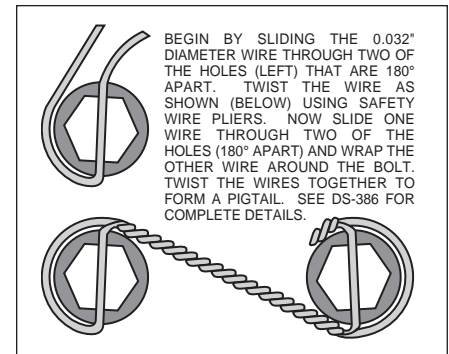
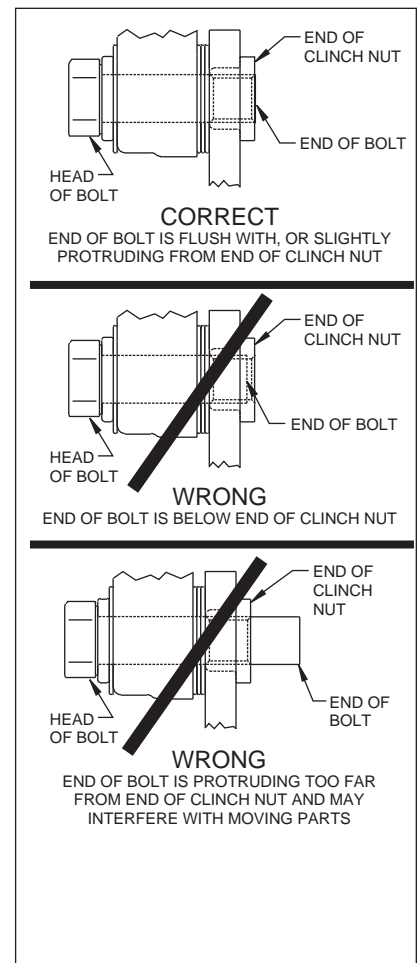

Figure 4. Safety Wire Diagram
Figure 5. Clinch Nut Engagement Diagram
•The rotor (3) has two sides. A flat side and an inset side. Bolt hat (2) to flat side of rotor (3) using bolts (5). Using an alternating sequence, apply red *Loctite*® 271 to the threads and torque bolts to 25 ft-lb. For an added measure of security, the bolts may be safety wired using standard 0.032 inch diameter stainless steel safety wire as shown in Figure 4. Please refer to Wilwood's data sheet DS-386 (available at www.wilwood.com/Pdf/DataSheets/ds386.pdf) for complete safety wire installation instructions.
•Align the correct hole pattern in the hat (2) with the stud pattern on the axle flange. **NOTE:** Some OEM and after market axles come with stud sizes larger than 0.50" diameter. Verify stud size and have a qualified machine shop drill the hats to the correct size. Slide the hat/rotor assembly (2 and 3) over the wheel studs and against the axle flange face.
•**NOTE:** Please reference the caution statement at the beginning of the assembly instructions. Mount the caliper (6) over the rotor (3) and onto the caliper mounting bracket (1) using washers (7) and mounting bolts (8). View the rotor through the top opening of the caliper. The rotor should be aligned in the center of the caliper. If not, adjust the caliper by using 0.032 inch shims (9) by placing them between the caliper mounting bracket (1) and the caliper (6). Add as many shim washers (9) as necessary to achieve the correct alignment. **NOTE:** The end of the bolt must be flush with or slightly protruding from the head of the clinch nut. See Figure 5. Place spare shims (9) between washer and caliper mounting ear to achieve the proper mounting fastener configuration. Always use the same amount of shims on both the top and bottom caliper mounting bolts (8). Apply red *Loctite*® 271 to the mounting bolt threads (8), torque to 40 ft-lb. Caliper mount bolts may be safety wired for additional security.
•Position the Wilwood disc brake pads (10) into the caliper (6) and fasten with cotter pin (4). Steel backing plate side of brake pad should face the caliper pistons.